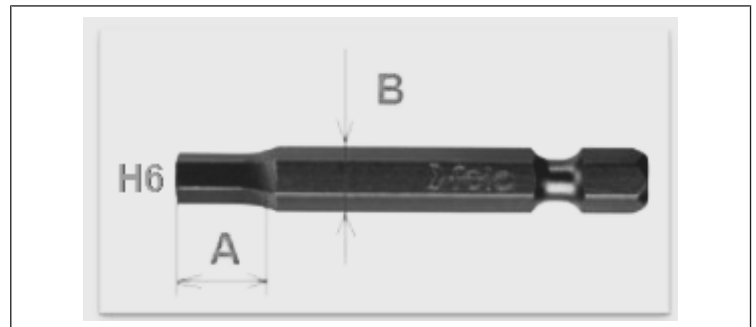

Fig. 4: Hexagon socket wrench H6
- 1x hexagon socket wrench H6 with length A > 14 mm, if B = 6.35 mm (1/4"), see → Fig. 4